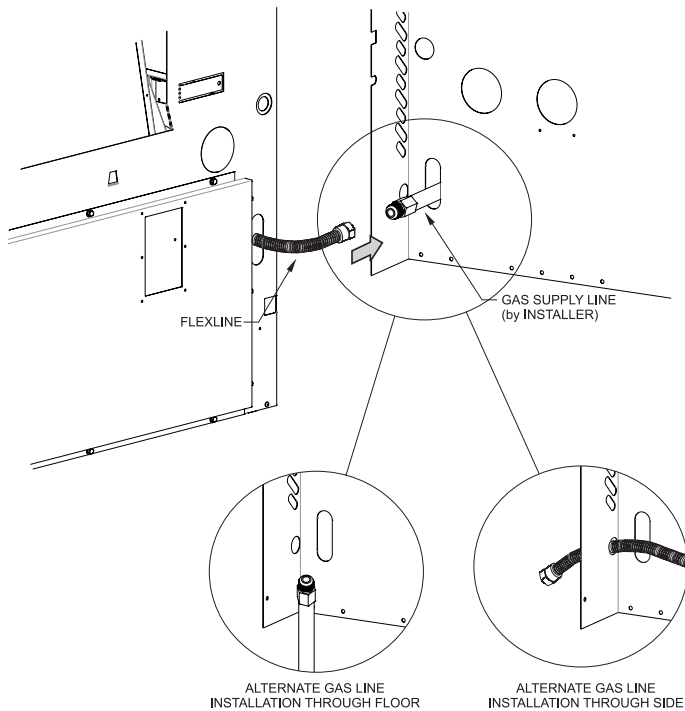

Figure 36
1. Pull the factory installed flexible gas line through the hole in the back panel. **See Figure 36.**
2. Connect the gas supply line to flexible gas hose. Ensure that flexible gas hose is not kinked after fitting gas supply line. Any excess flexible line can be pushed back into the wall furnace. **See Figure 36.**